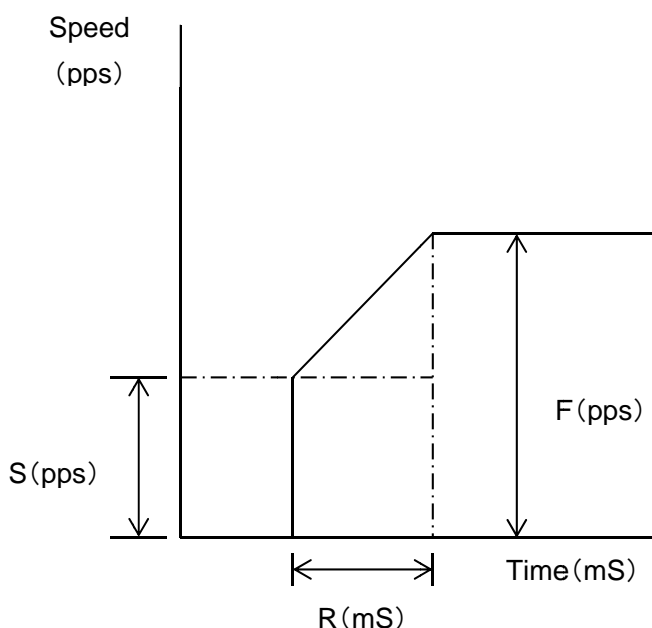

Fig. 3-2-2 Relation of F, S and R values
⑥ F-value setting (SW 12)
Maximum speed (F) is set with this switch. (Refer to figure 3-2-2)
⑧ R-value setting (SW 13)
Acceleration / Deceleration time (R) is set. (Refer to figure 3-2-2)
(Refer to figure 3-2-2, 3-2-3)